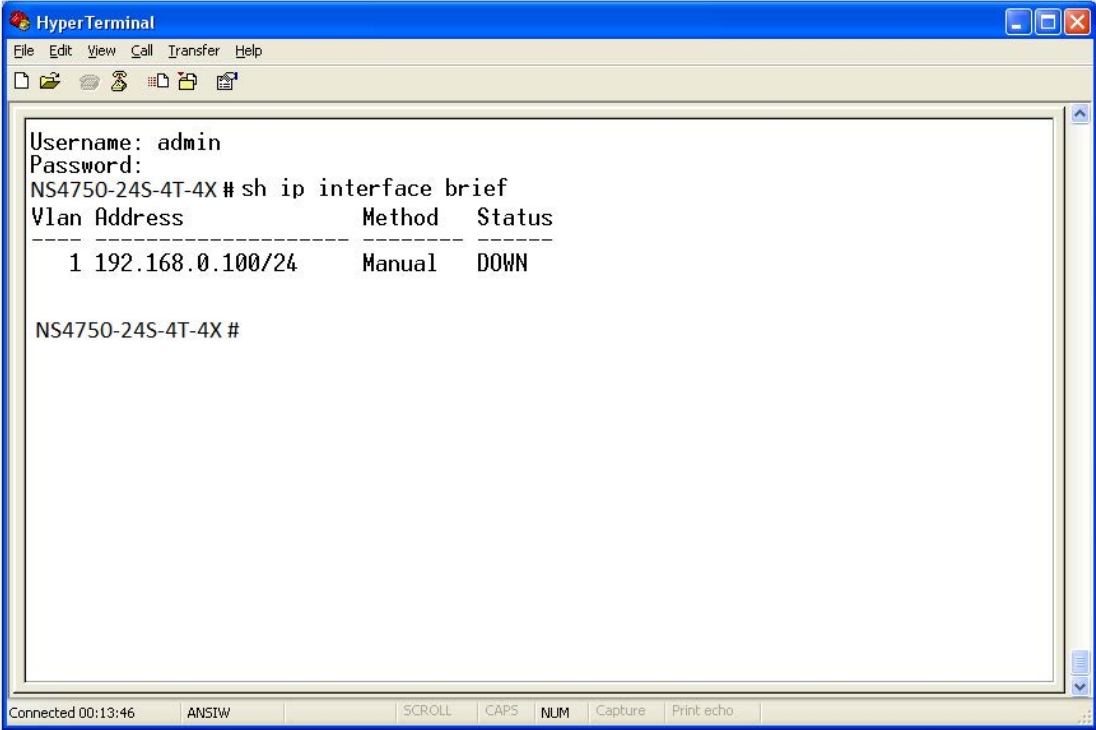

Figure 6-1: Show IP Information Screen
- 2. The screen displays the current IP address, Subnet Mask and Gateway as shown in Figure 6-1.